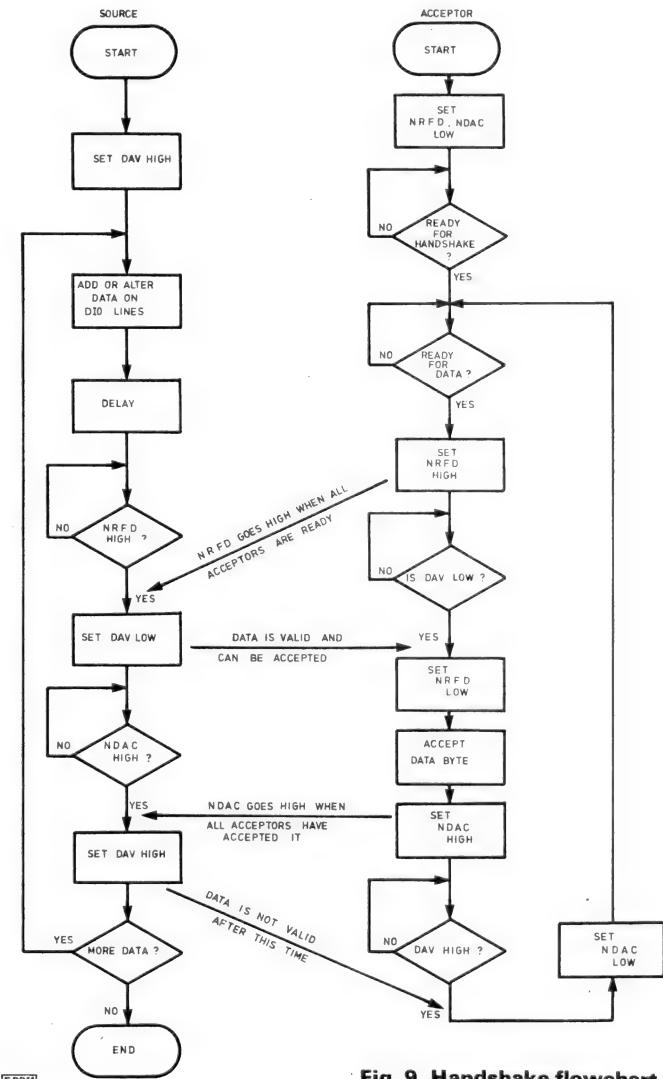

Fig. 9. Handshake flowchart
- It may seem a bit long-winded to go through all that to transfer data, but it takes just a fraction of a second to occur, and the handshake ensures correct data transmission. Another explanation of the handshake cycle is shown in the form of a flow chart in Fig. 9. In the above example, when the controller is talking, it is referred to as the SOURCE and it controls the DAV line, while the DMM, which is listening, is called an ACCEPTOR, and controls the NRFD and NDAC lines. The names and lines each device controls are of course reversed when their respective listen and talk roles are reversed.